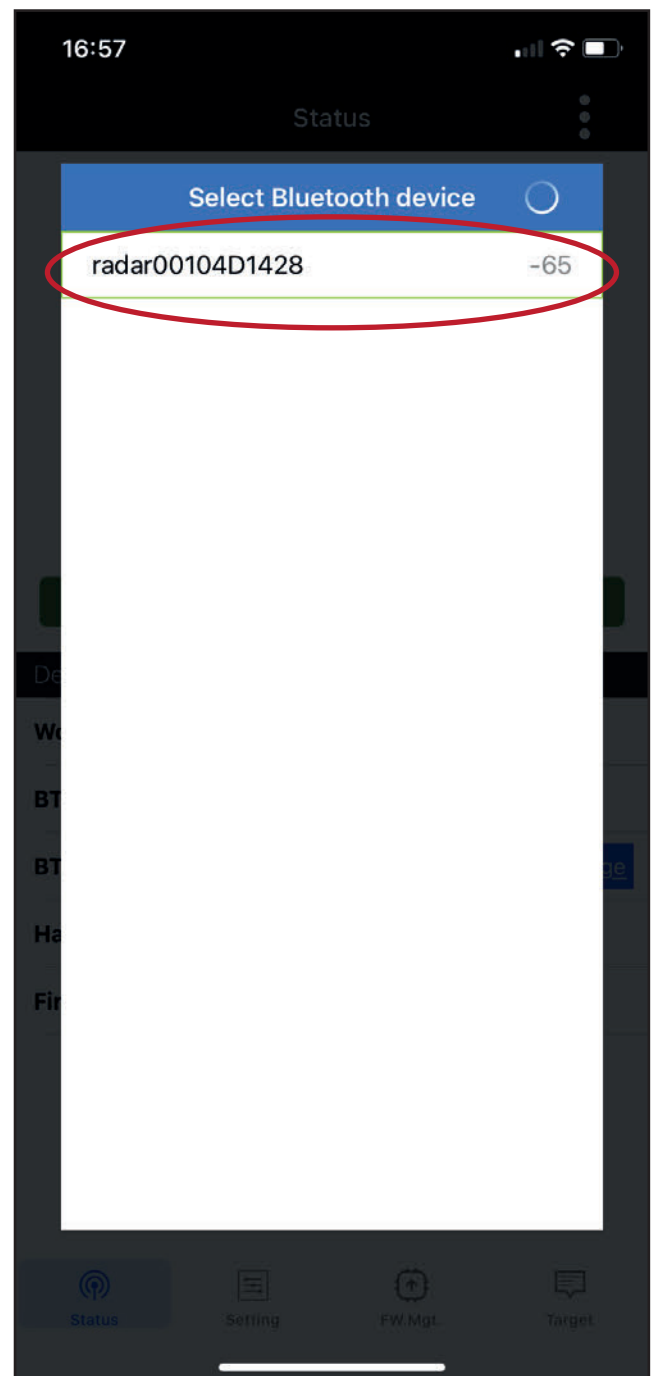

Figure 3
3. Select the right Radar Sensor (Figure 3)